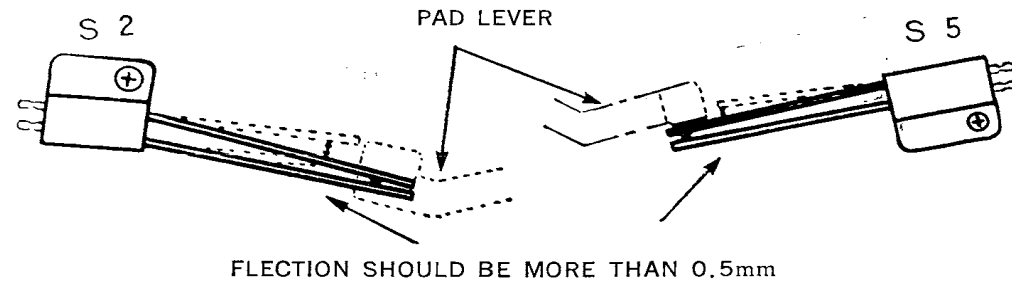

Fig. 27
a) Installation position of the muting switch (Fig.27)